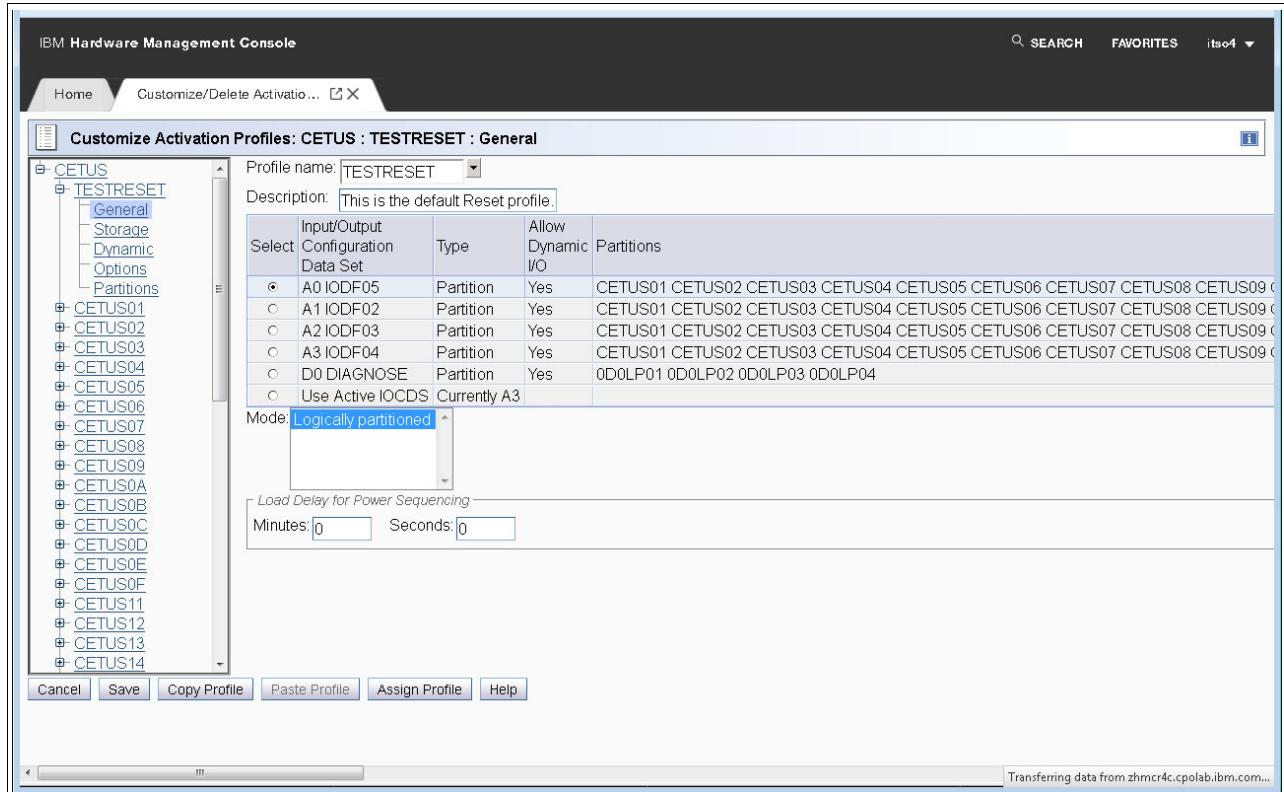

Figure 5-20 Reset and Image profile list: Selecting IOCDs
12. Note the list of LPARs that were retrieved and built based on the LPARs that were defined in the selected IOCDs. Click **Save** (Figure 5-20).